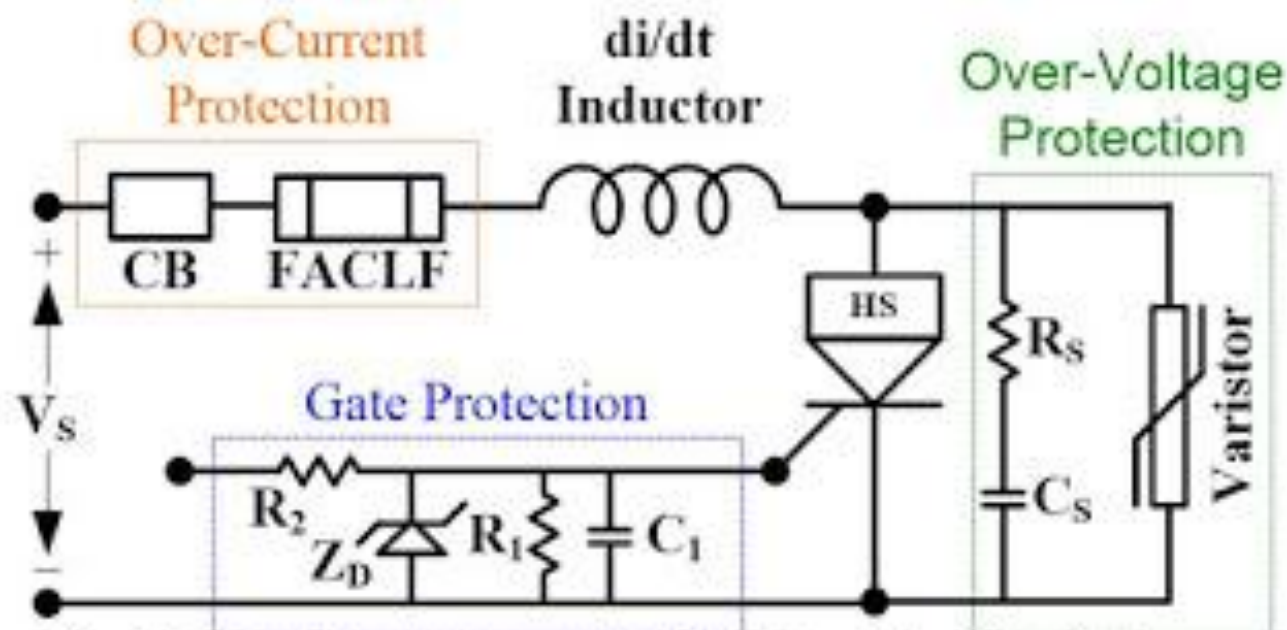

Fig. 3 Circuit components showing the Thyristor protection.
- Protection against over-voltages is achieved by connecting a zener diode (ZD) across the gate circuit as given in Fig. 3. A resistor R2 connected in series with the gate circuit provides protection against over-currents.